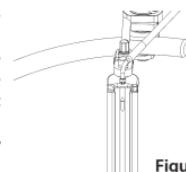

Figure 18
- Gently insert the bifurcated ends into the holes located on top of the **Retractor Blades**. (Figure 18)